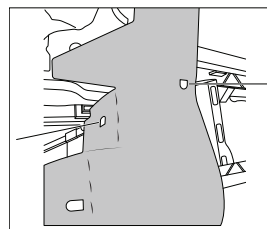

Figure: 1
- Attachment 1: Locate the slit on the side shield and attach it to the hook on the side of the dishwasher. (See figure 1)